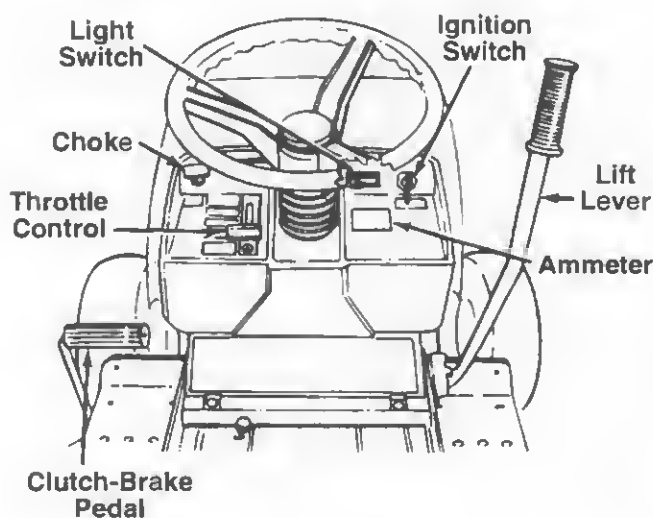

FIGURE 8.
The ignition switch is located on the dashboard. The engine is started by turning the key to the START position. After the engine starts, let the key return to the ON position. To stop the engine, turn the key to the left to the OFF position and remove it to prevent accidental starting. See figure 8.
The throttle control is located on the dashboard and is used to regulate the engine speed. See figure 8. To get maximum efficiency from cutting, the throttle should be in the FAST position when operating the mower. See figure 8.
The choke control is located on the right side of the dashboard and is operated manually. Details for the choke operation are covered in the separate engine manual packed with your unit. See figure 8.
The head lamps are operated by pushing the light switch located on the dashboard. The head lamps will only operate when the engine is running. See figure 8.
The ammeter registers the rate of battery charge or discharge. The ammeter will register on the discharging side with starting the engine. It should register on the opposite side (charging) when the engine is running in the fast position until the battery is completely charged. With a fully charged battery or with the engine idling, the ammeter will not show a charge. See figure 8.
The clutch-brake pedal is located on the left side of the tractor. See figure 8. Depressing the pedal returns the drive unit to neutral (N) and applies the brake.